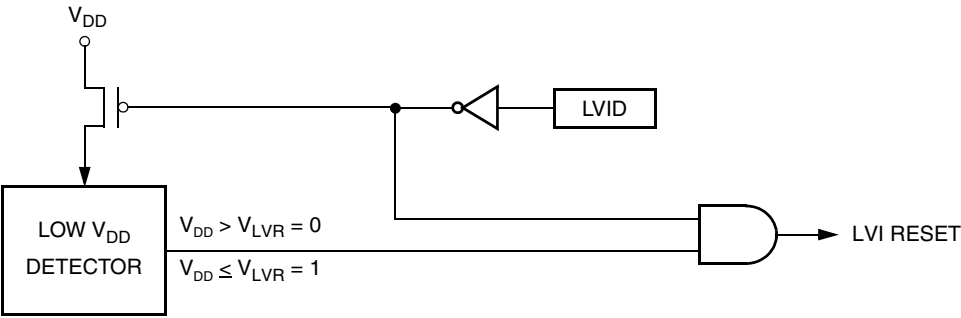

Figure 16-1. LVI Module Block Diagram
**Figure 16-1** shows the structure of the LVI module. The LVI is enabled after a reset. The LVI module contains a bandgap reference circuit and comparator. Setting LVI disable bit (LVID) disables the LVI to monitor  $V_{DD}$  voltage.